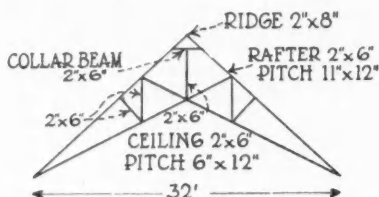

FIG. 1—ROOF TRUSS TO CARRY CEILING
5. If the scissors truss shown in the sketch, Figure 1, carries a plastered ceiling is the construction shown strong enough? Can you find the strains in the different members for me? The trusses are to be two feet apart and the covering is sheathing and composition shingles.